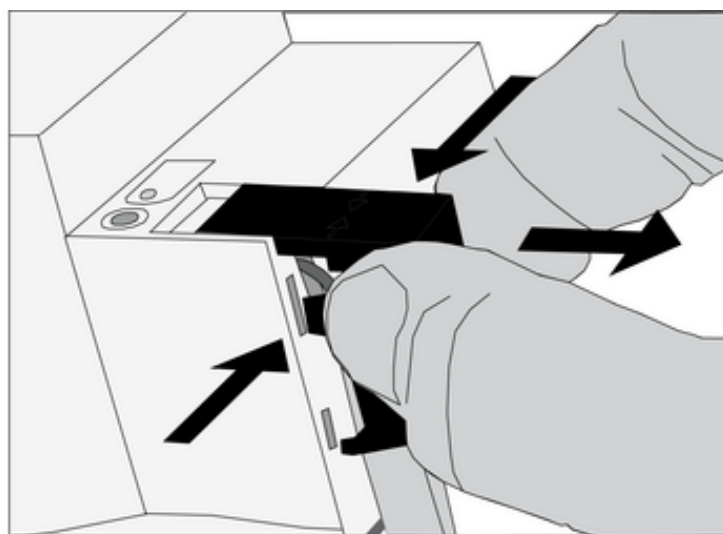

Figure 4: Removing the cover
- Press the cover to the side and pull it off (Figure 4).